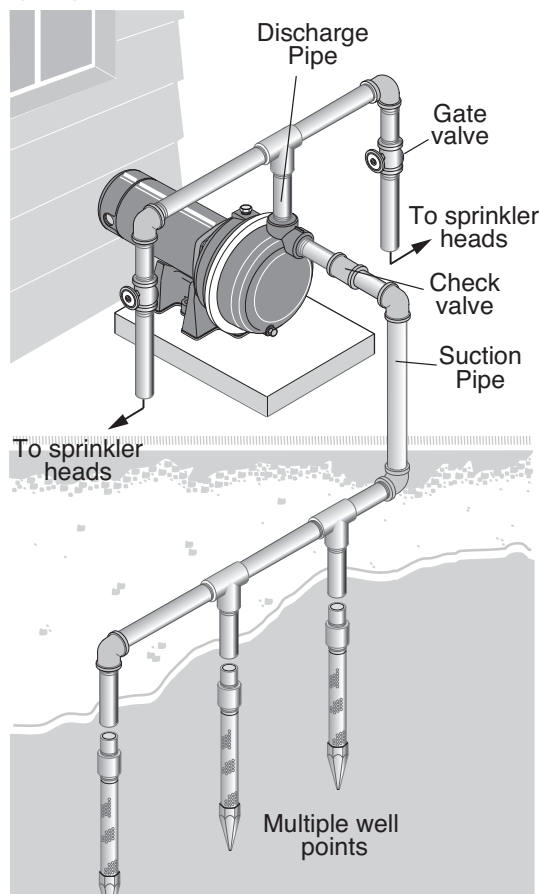

Figure 2 - Driven Point Installation, Multiple Well Points
1. Connect suction pipe to drive point (Figure 2). Keep horizontal pipe run as short as possible. Use PTFE tape on male pipe threads. Multiple well points will most likely be necessary to provide sufficient water to pump.
2. Install in-line check valve (see Figure 2). Be sure check valve flow arrow points toward pump.